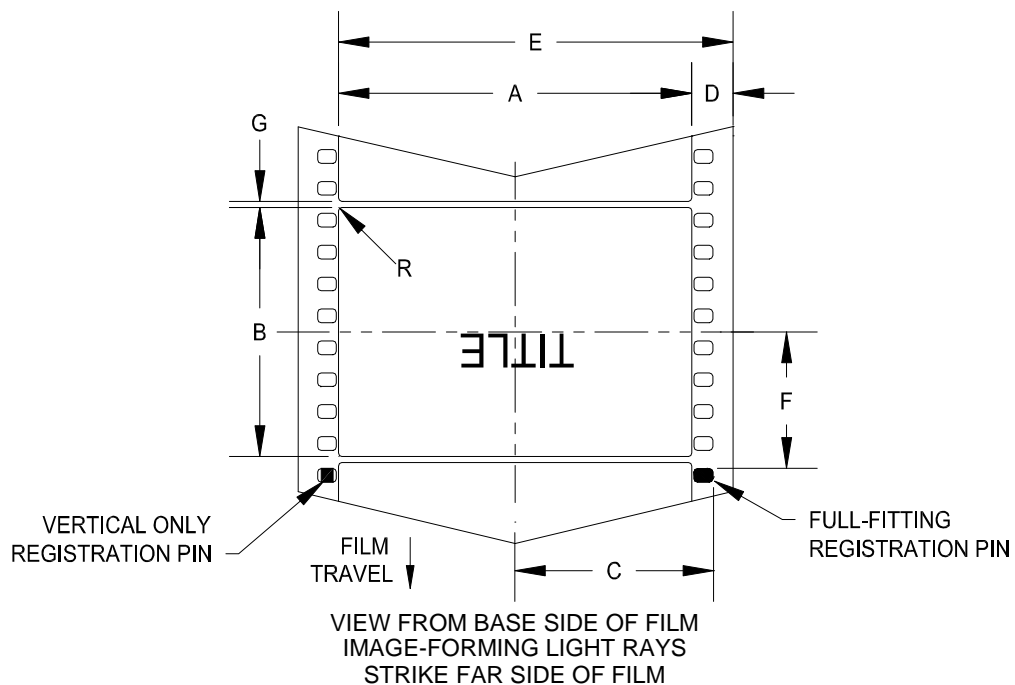

Figure 1 – Camera aperture area of film
3.1 The dimensions shall be as specified in figure 1 and table 1. They shall apply to measurements of the images formed on freshly exposed and processed film.